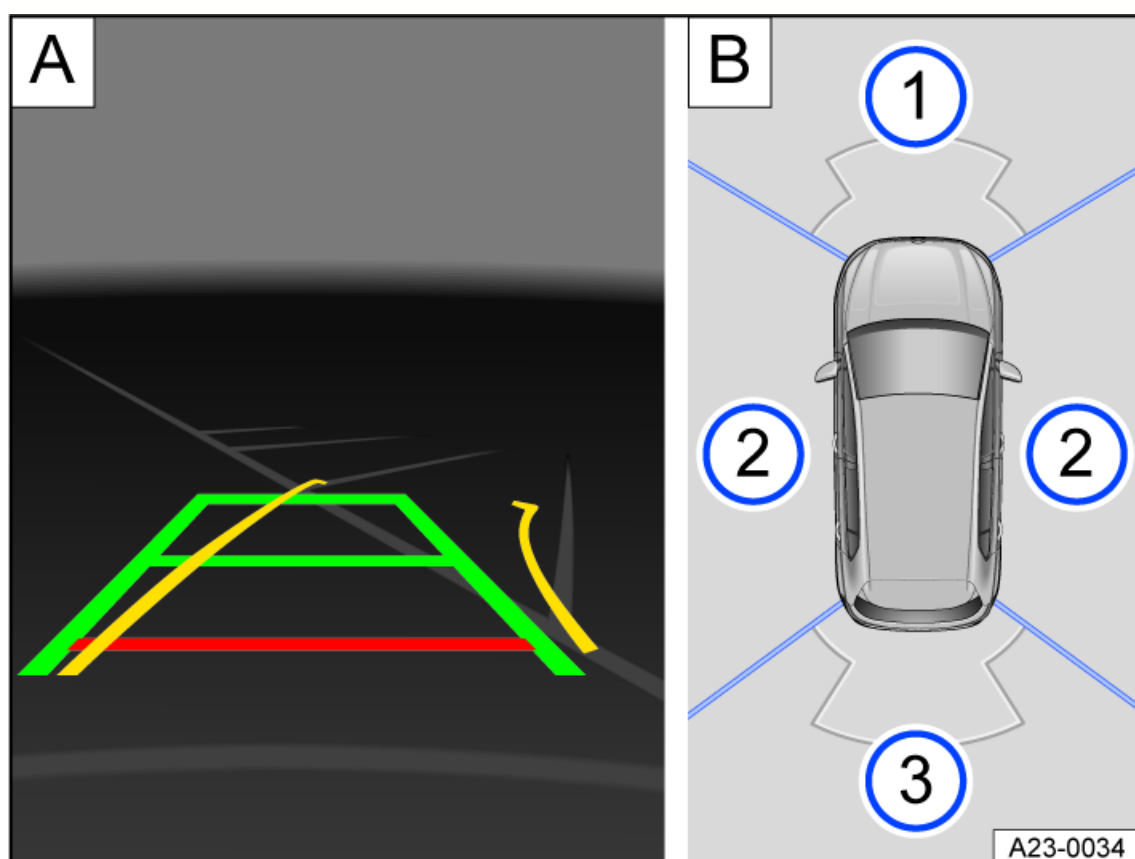

Fig. 113 Infotainment system: Area View with "Perpendicular parking mode" camera image (general example).
Two sections of the screen will be shown in the Infotainment system *fig. 113*:
1. To display the desired camera image on the left *fig. 113* □, tap the front, rear or side screen area on the right *fig. 113* □.
1. In the fig. 113  section of the screen, tap on the vehicle graphic.